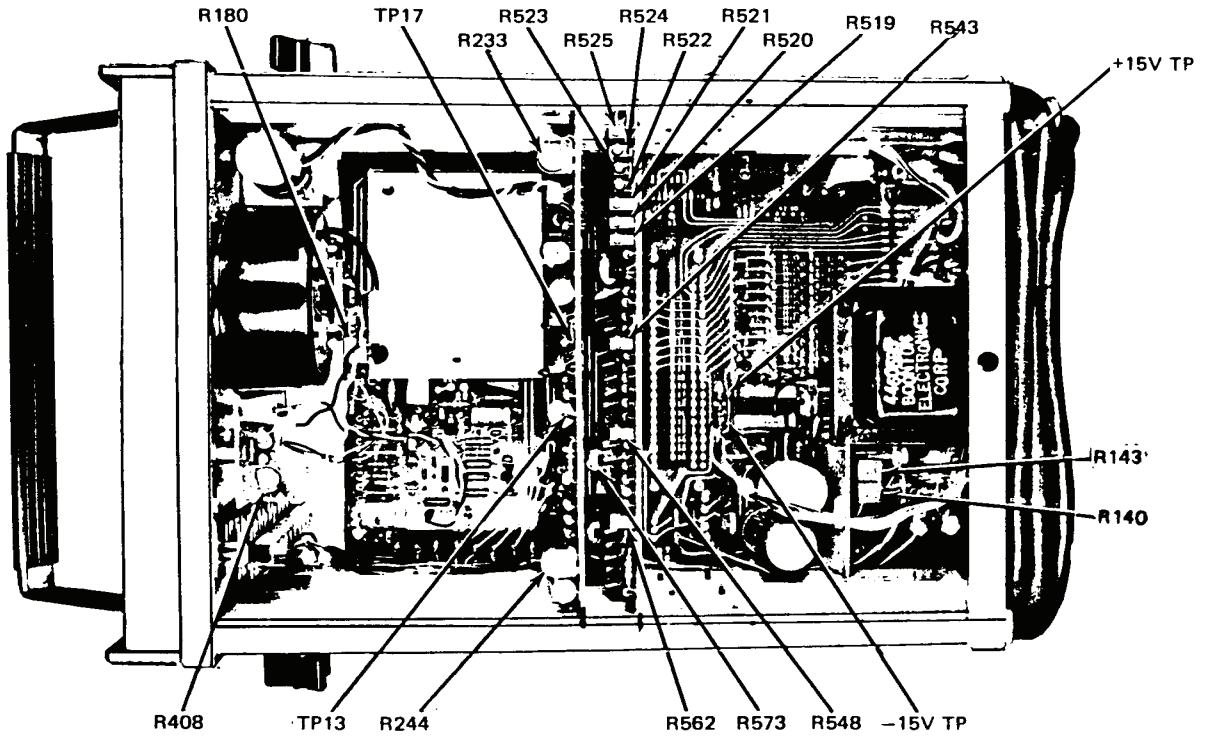
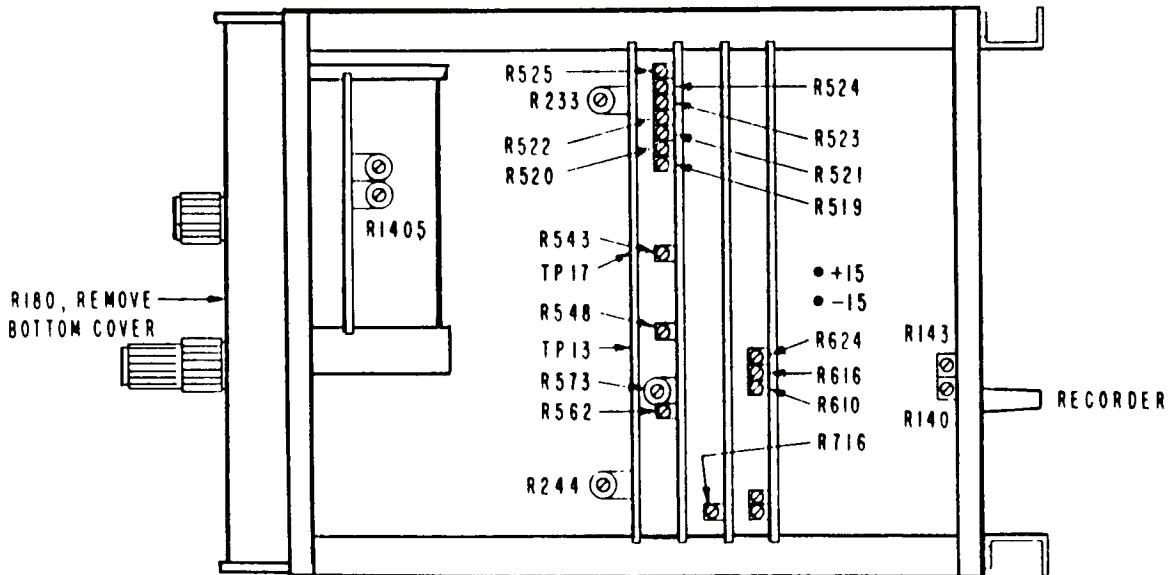

Figure 1. Model 42B - to view.
Figure 2. Model 42BD - top view.
(1) Adjust position of **CAL FACTOR** knob on shaft so that equal and opposite **CAL FACTOR** indications are obtained when control is set against stops (R).
(2) Adjust R573 (fig. 1 or 2) for a -31.0 dBm indication on TI meter (R).
(1) Connect **RECORDER** output (rear panel) to input of true rms voltmeter. For model 42BD, connect multimeter to **RECORDER** output (rear panel).
(2) Set **CAL FACTOR** control to 0 dBm. This **CAL FACTOR** control setting will be maintained throughout remaining calibration checks at function/arbitrary generator frequency of 200 kHz.
(3) Set **FULL SCALE** switch to -50 dBm (**OFF-PWR-dBm** switch to **PWR**).
(4) Adjust **ZERO** control to an average zero indication (downscale) on TI meter (minus sign flashes on and off). True rms voltmeter will indicate 100 mV or less.
(5) Set **FULL SCALE** switch to -30 dBm. If TI meter (model 42B) does not indicate zero (downscale), perform **b** below. For model 42BD, if multimeter does not indicate 0.0 V dc, perform **b** below.
**b. Adjustments.** Adjust R233 (fig. 1 or 2) for a zero indication (downscale) on TI meter (R). For model 42BD, adjust R233 (fig. 2) for 0.0 V dc indication on multimeter (R).
(1) Adjust function/arbitrary generator output for an indication of 7.07 mV on true rms voltmeter.
(2) Adjust R180 (fig. 1 or 2) for a -3.0 V dc indication on multimeter (R).
(2) Adjust R523 (fig. 1 or 2) for a 10.0 V dc indication on multimeter (R).
(1) Adjust function/arbitrary generator output for an indication of -30.00 dBm on true rms voltmeter.
(2) Adjust R408 (fig. 1) or R1405 (fig. 2) for a -30 dBm (1.000 μW) indication on TI meter (R).
- (1) Adjust R610 (fig. 2) for a +10 dBm indication on TI meter (R).
- (2) Adjust R624 (fig. 2) for a -40 dBm indication on TI meter (R).
- (3) Adjust R610 (fig. 2) for a 0 dBm indication on TI meter (R).
- (4) Adjust R616 (fig. 2) until TI indicates a 10 dB difference from value recorded in **a** (11) above (R).
- (1) Connect negative edge of frequency counter to **RECORDER** connector on rear panel and positive side of frequency counter to TP13 (fig. 2).
- (2) Connect TI power detector to function/arbitrary generator **Output**.
- (3) Zero TI meter as described in paragraph **7 h** above.
- (4) Set **FULL SCALE** switch to **-30 dBm**.
- (5) Adjust function/arbitrary generator output for a -30 dBm indication on TI meter.
- (6) Set frequency counter to measure period. If frequency counter does not indicate between 10.50 and 10.80 ms, perform **b** below.
**b. Adjustments.** Adjust R244 (fig. 1 or 2) for a 10.65 ms indication on frequency counter (R).
- (1) Connect negative side of multimeter to - (negative) **RECORDER** connector on rear panel, and positive side of multimeter to -15 V TP (fig. 1 or 2). If multimeter does not indicate between -14.9 and - 15.1 V dc, perform **b** (1) below.
- (2) Connect positive test lead to +15 V TP (fig. 1 or 2). If multimeter does not indicate between +14.9 and +15.1 V dc, perform **b** (2) below.
- (1) Adjust R143 (fig. 1 or 2) for a -15.0 V dc indication on multimeter (R).
- (2) Adjust R140 (fig. 1 or 2) for a +15.0 V dc indication on multimeter (R).